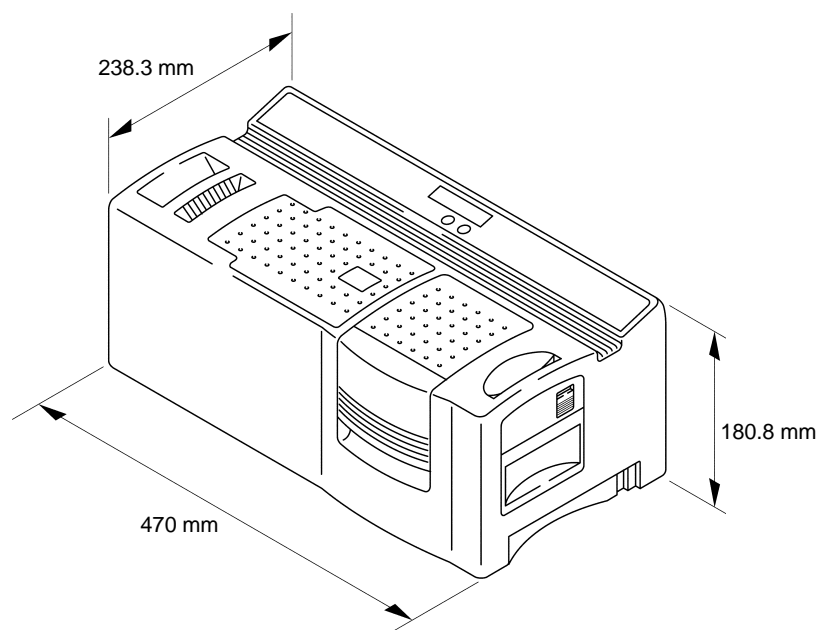

Fig. 1.1 External Dimensions
| (1) External view | See Fig. 1.1. |